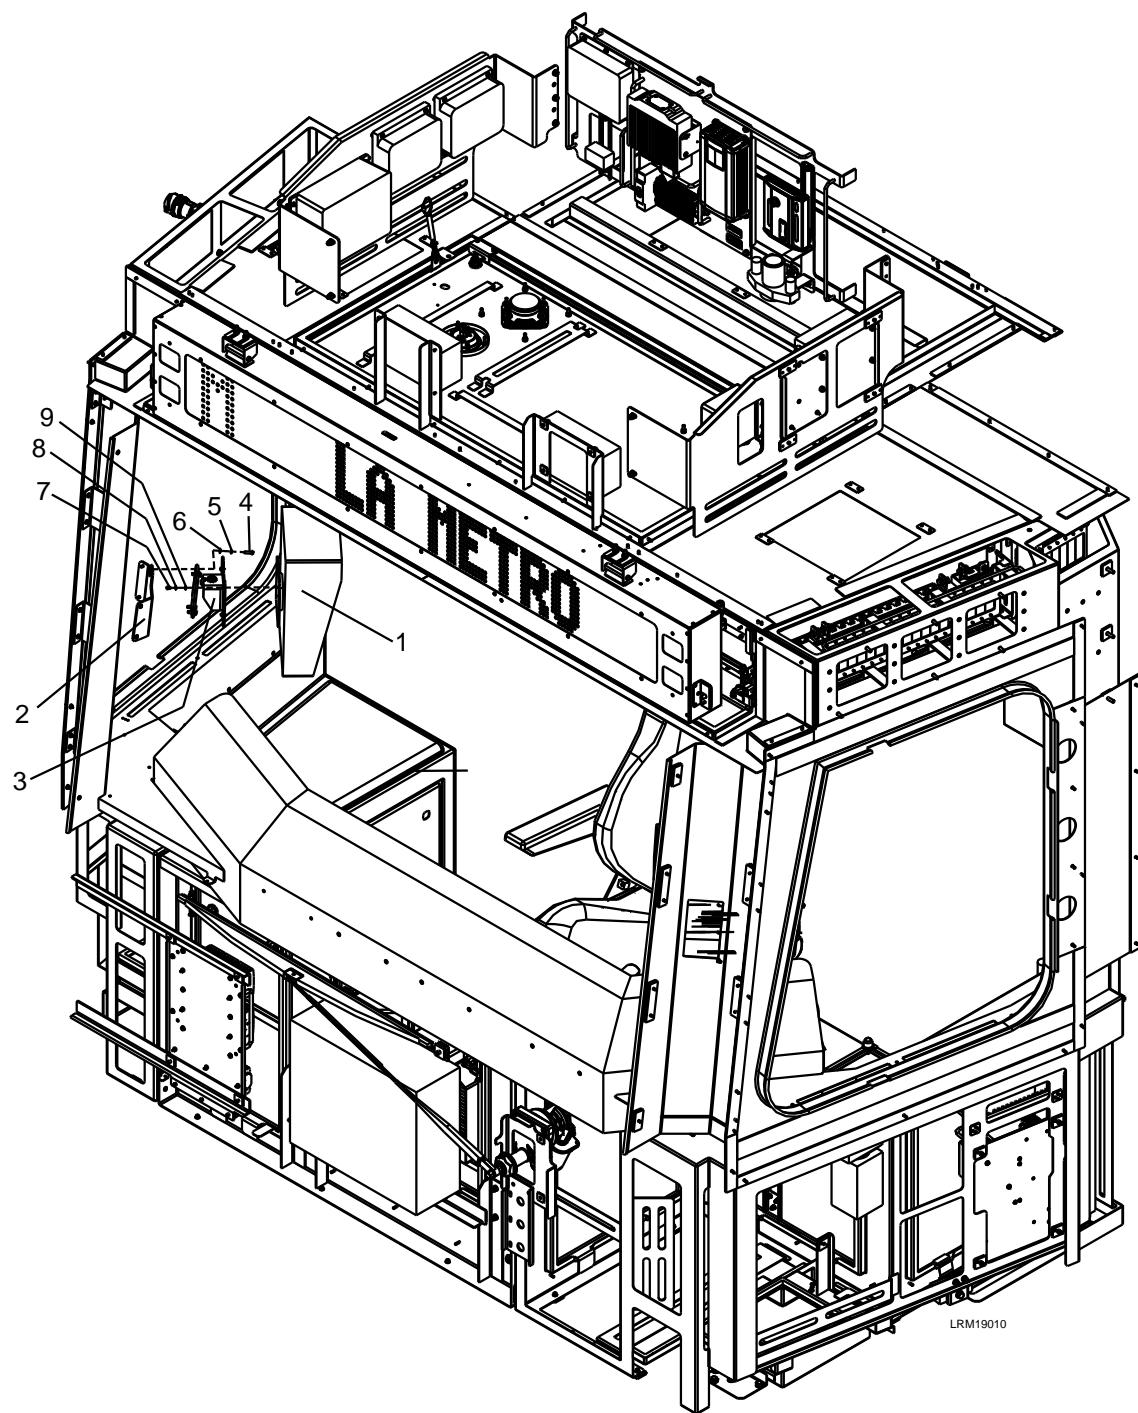

Figure 7-8: Rear View Monitor
2. Remove the four M5 x 16 bolts (4), M5 lock washers (5), and M5 plain washers (6) from the base plate (2). See Figure 7-8.
3. Carefully remove the Rear View Monitor assembly (1).
4. Remove the four M4 x 8 screws (7), M4 lock washers (8), and M4 plain washers (9) from the Rear View Monitor (1) and remove the Bracket Assembly (3).